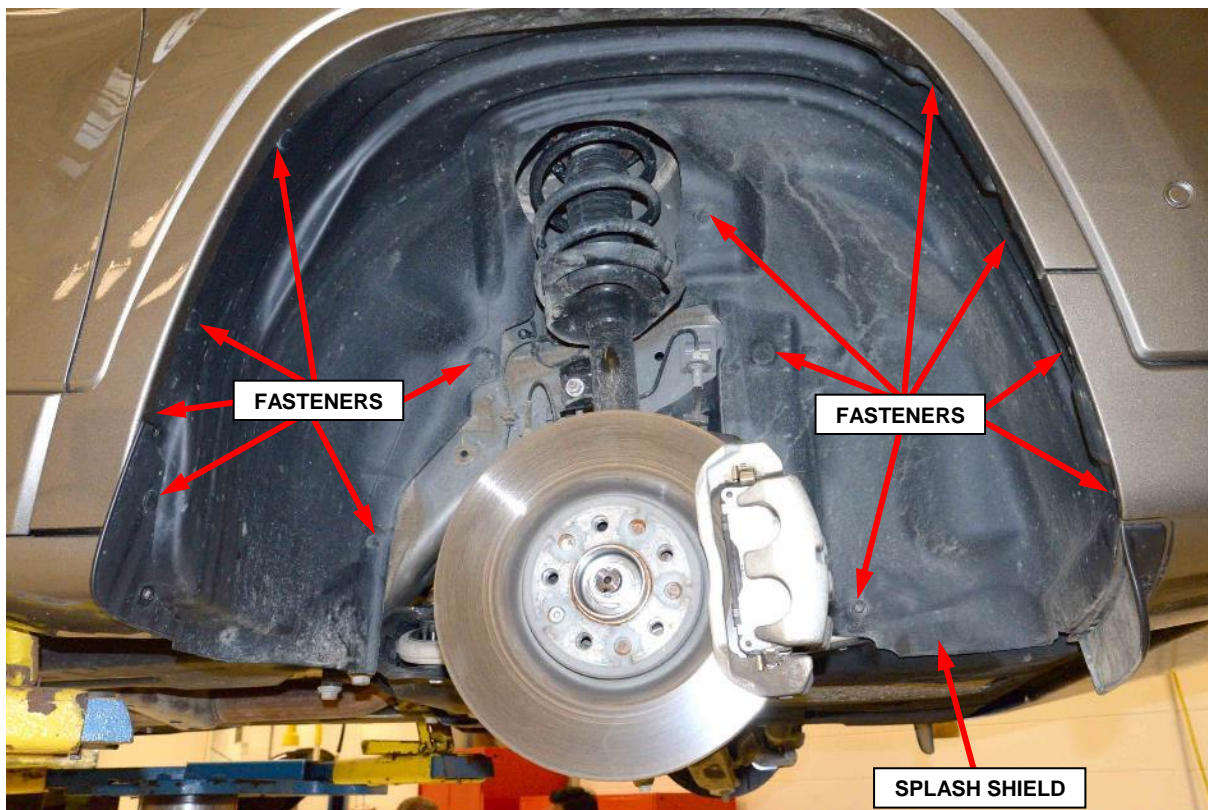

Figure 11 – Wheelhouse Splash Shield
- b. Remove the fasteners securing the wheelhouse splash shield to the vehicle (Figure 11).
NOTE: Fastener location and quantity will vary depending on vehicle trim level, (Figure 11) is only an example.
- c. Release the outboard edge of the wheelhouse splash shield from the fender flange (Figure 11).
- d. Remove the wheelhouse splash shield from the vehicle (Figure 11).